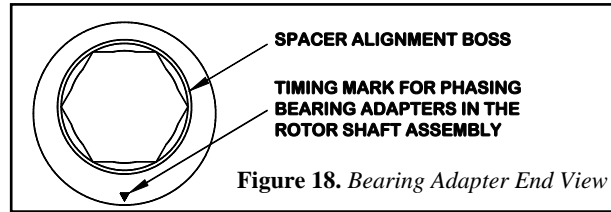

Figure 18. Bearing Adapter End View
1. Rotate the adapters in each rotor so the timing marks (See Figures 18, 19 & 20) are phased 180 degrees apart with hex bores aligned.
**NOTE: THE SPACERS MUST BE ACCURATELY ALIGNED AND FULLY SEATED OVER THE SPACER ALIGNMENT BOSES (SEE FIG 18.) ON ALL BEARING ADAPTERS BEFORE TIGHTENING. DO NOT FORGET TO PLACE THE BEARING STAMPINGS ON EACH OF THE SHAFT BEARINGS DURING REASSEMBLY. ALSO, THE 1/2" CARRIAGE BOLTS SHOULD BE PLACED IN THE BEARING STAMPINGS ON THE DRIVE END OF THE SHAFT BEFORE THE PULLEY IS REPLACED.**